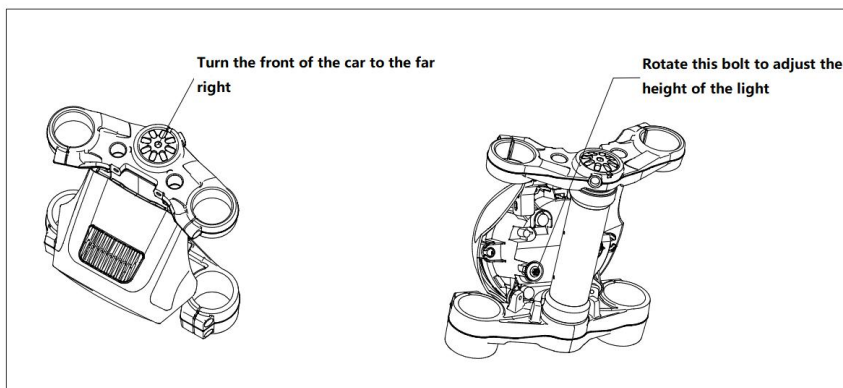

Fig 10
4.8 Headlight Pitch angle adjustment (Fig10)